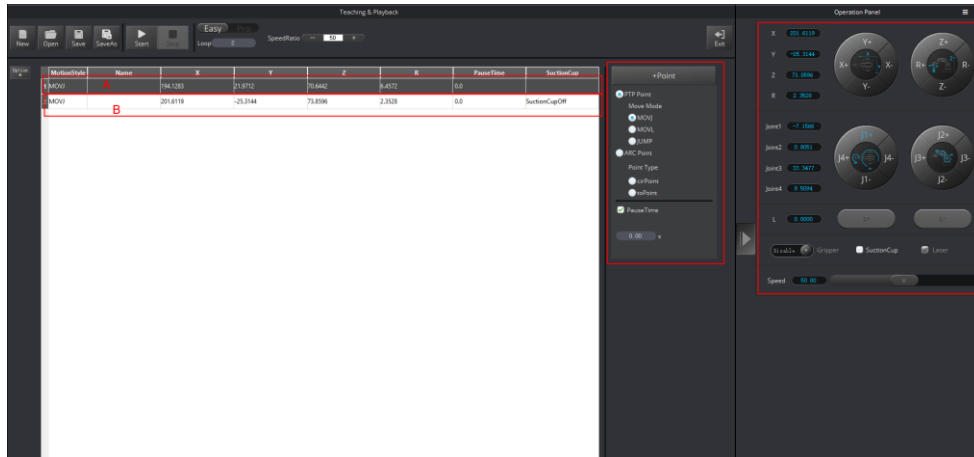

Figure 5.28 Save the end position B
5. Click **+Point** to save the coordinate corresponding to the position B, as shown in Figure 5.28.